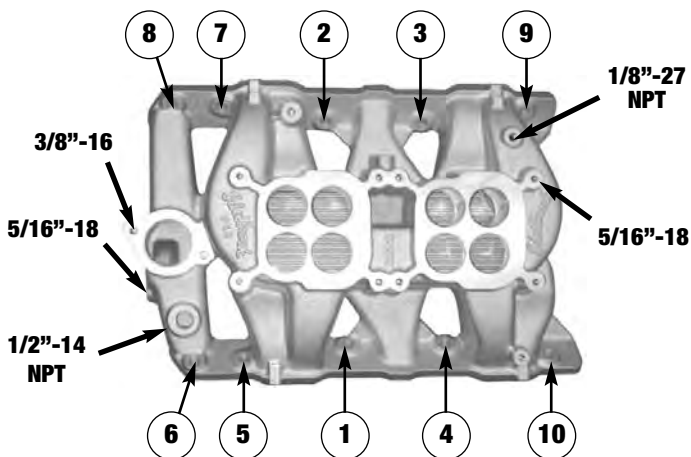

Figure 1 - 326-455 Pontiac Torque Sequence
5. Torque all of the manifold bolts in two steps by the sequence shown in Figure 1 to 25 ft/lbs.